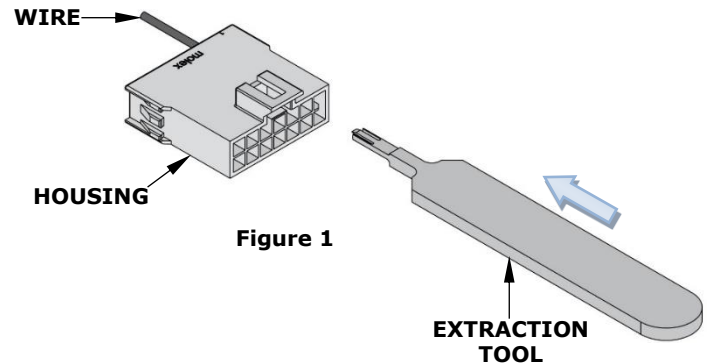

Figure 1
1. Position the extraction tool as shown in Figure 1.